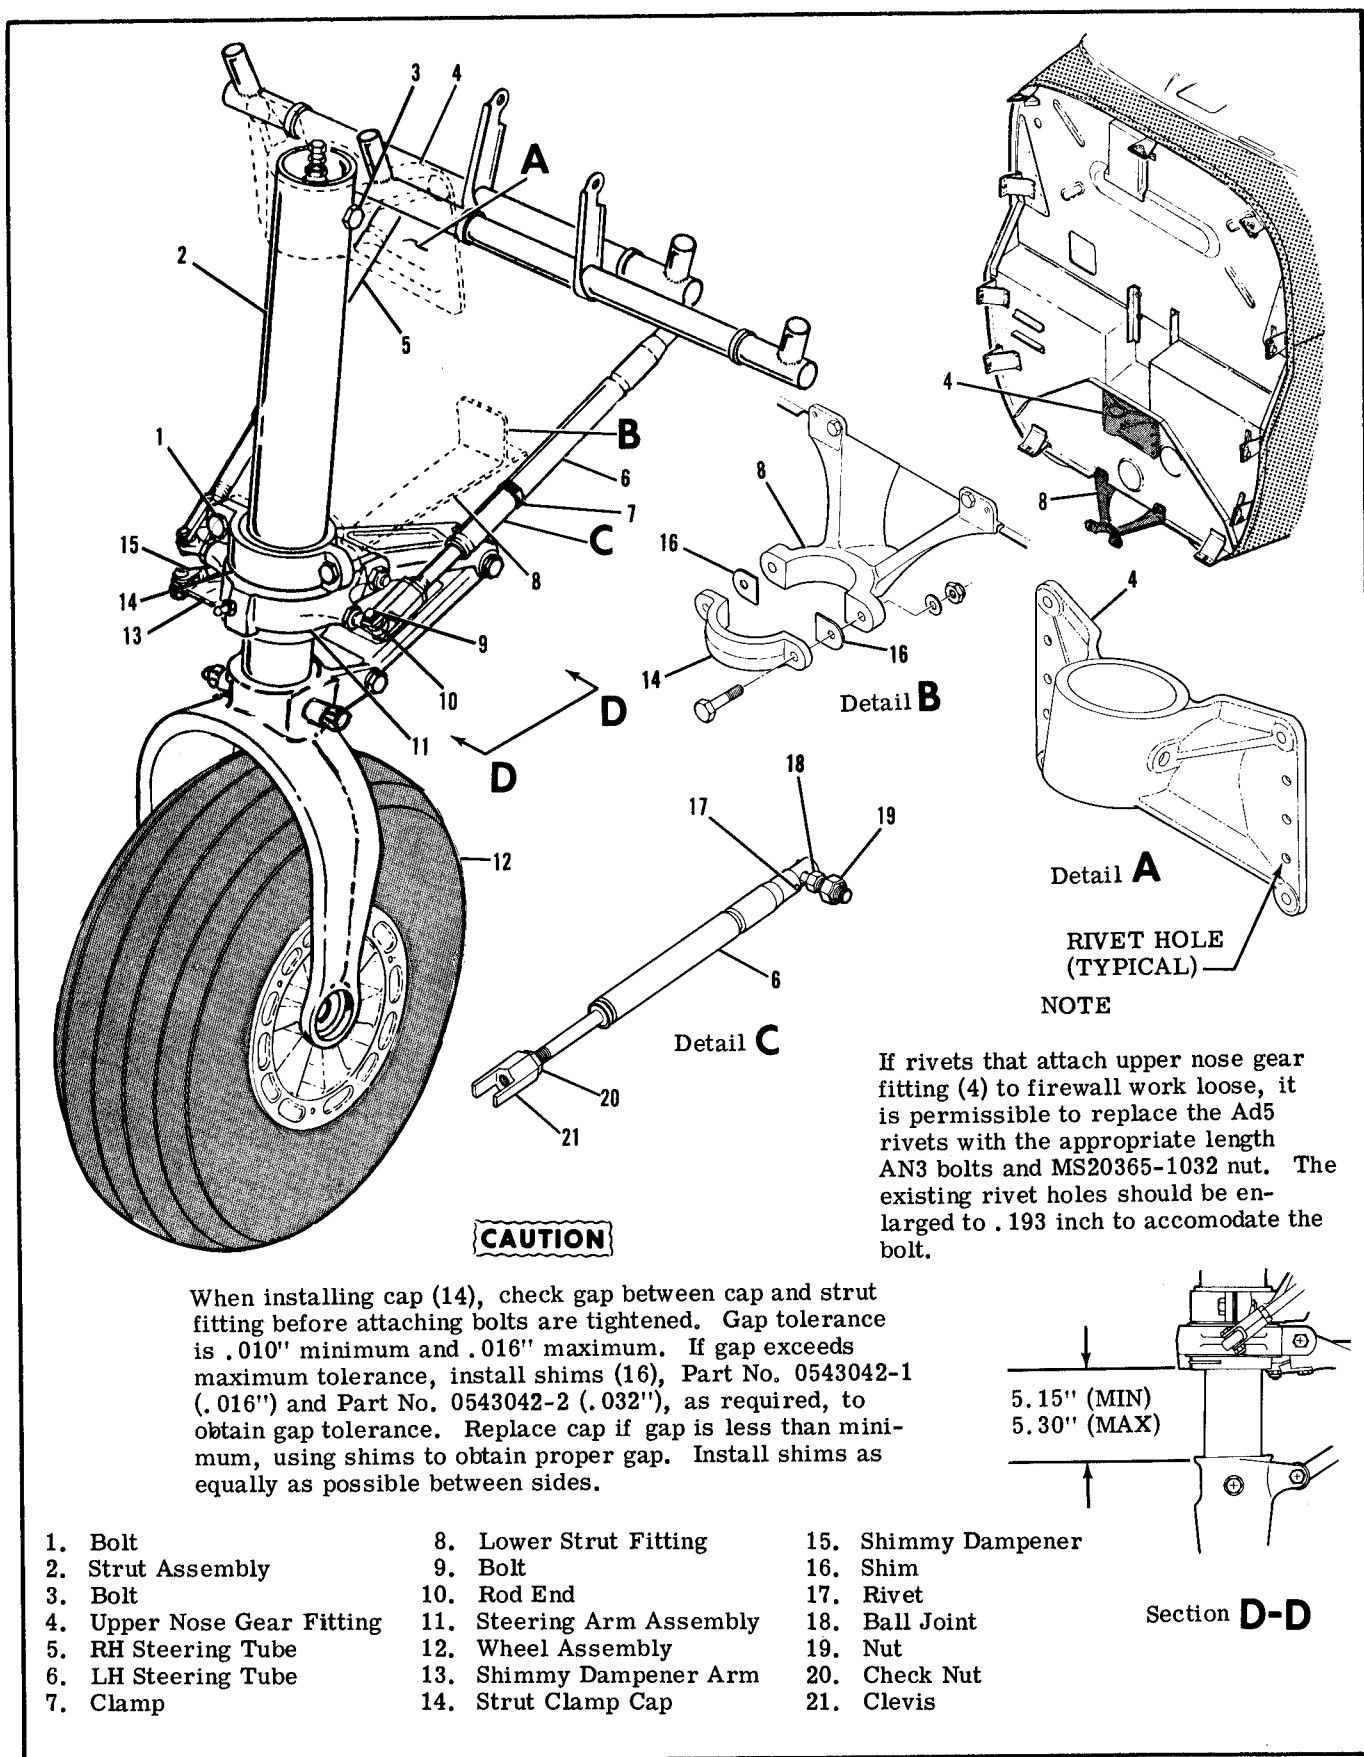

Figure 5-6. Nose Gear Installation
**5-27. NOSE GEAR REMOVAL.** (Refer to figure 5-6.)
**5-28. NOSE GEAR INSTALLATION.** (Refer to figure 5-6.)
- c. Install shims and strut clamp cap attaching strut to lower strut fitting, observing the CAUTION in figure 5-6.